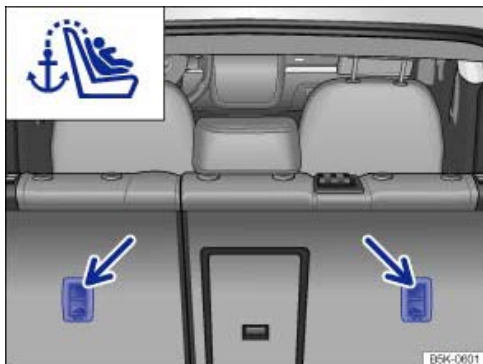

Fig. 28 Anchor rings for the top tether on the back of the rear bench seat.
- Guide the upper strap of the child seat backwards into the luggage compartment and hook it into the corresponding top tether anchor ring → Fig. 28 .